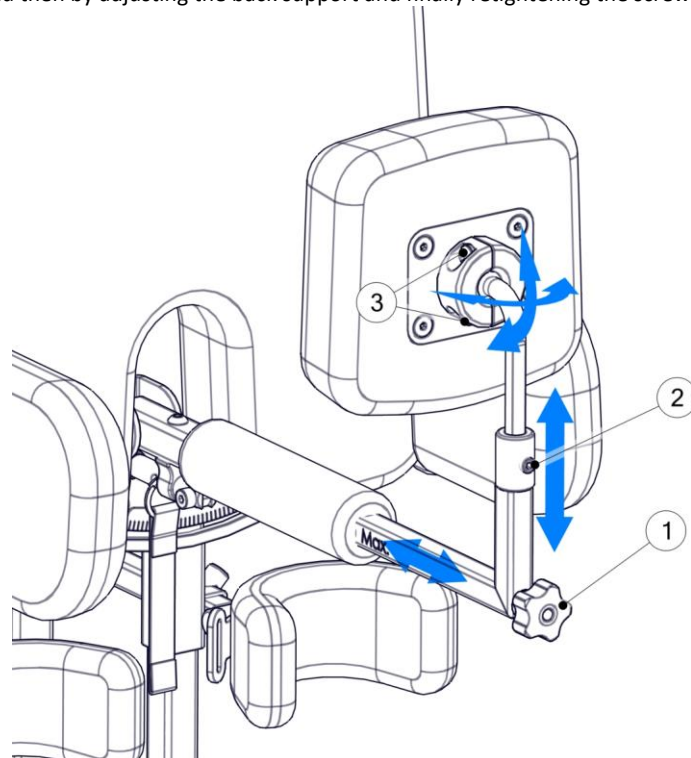

Fig. 6
After placing the patient in the device we put the back support bracket and secure it. Back support enables accurate regulation within all planes. Back support adjustment is shown in Fig. 6. After setting the depth of back support, tighten the knob (1) and hence block the possibility to remove the back support. Maximum possible distance of the depth is marked with the "MAX" mark. The height of the attachment is regulated by undoing the screw (2). After setting the height of the back support, we block it by tightening the screw (2) until resistance. Accurate adjustment of the position of the back support cushion can be obtained by loosening the screws (3), and then by adjusting the back support and finally retightening the screw (3).